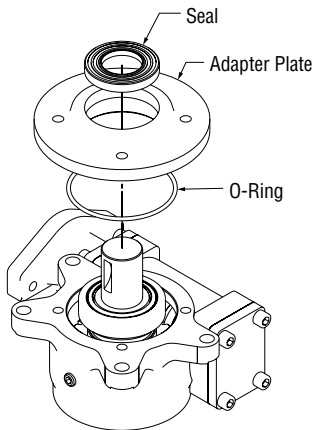

Figure 5-7, Output Shaft Seals
6. The output shaft seals may now be serviced. (Figure 5-7)